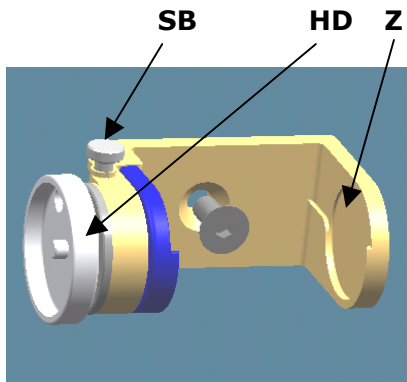

Fig. 1
- Pull up the clamping bolt **SB** out of the groove and rotate it by 90°. **Fig.1/2**
- Turn the hand wheel **HD** counterclockwise until the max. clamping zone is available. **Fig.1/2**